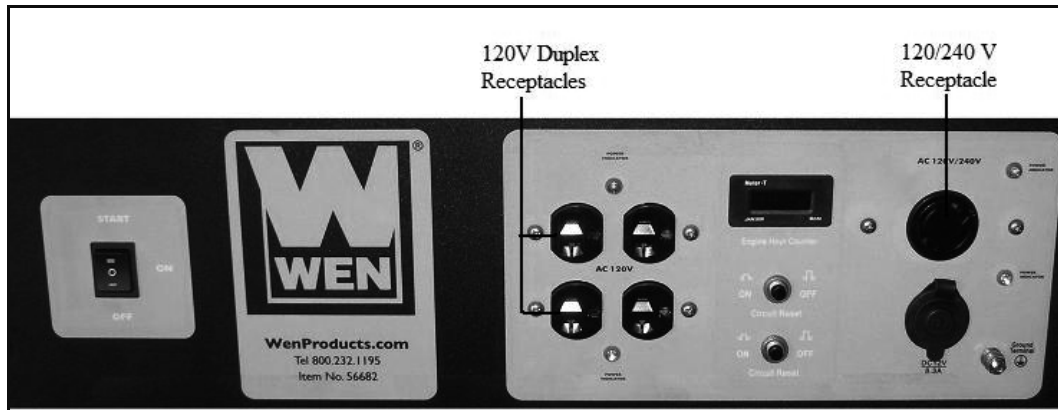

Figure 17- AC Receptacles available on the generator
1. Plug in each electrical device with the device turned off. **NOTE:** Be sure to attach appliances to the correct receptacles (outlets). Connect standard 120 Volt, single phase, 60 Hz loads **only** to the 120 Volt receptacles. Connect 240/120 Volt, single phase, 60Hz loads with a NEMA L14-30 plug **only** to the 240/120 Volt receptacle See Figure 17 for a depiction of each of these receptacles.